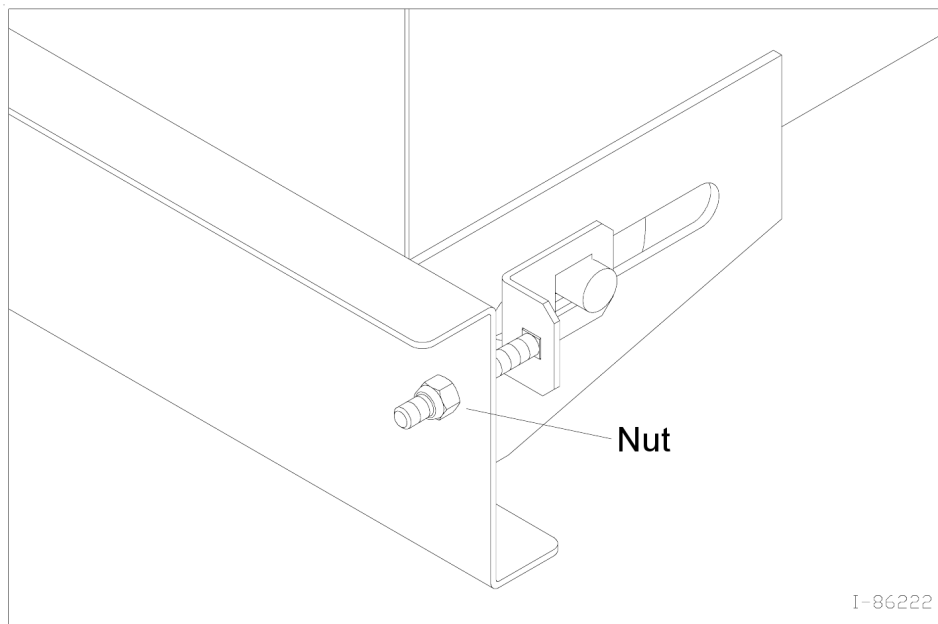

Figure 4A - Adjusting the Floor Apron Chain for Proper Tension
- Periodically check the floor apron chain for proper tension/tightness (refer to Figure 4A).
- Use a 9/16" wrench to tighten the adjustment nut on the lower left/right front of the spreader box as shown in Figure 4A. Observe the chain positioning with respect to the floor/apron. *Make sure that the chains on each side of the apron are equally taut.*